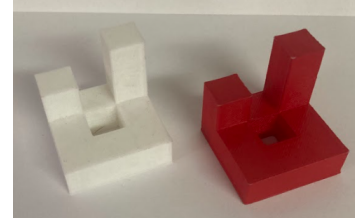

Figure 2: Two 3D objects of the same shape, but different colors
2. *The color (Figure 2):* Half of the provided 3D objects are red, and half of the provided objects are white. The 2D drawings specify the material of the part in the top left-hand corner. Students generally correctly matched based on color.